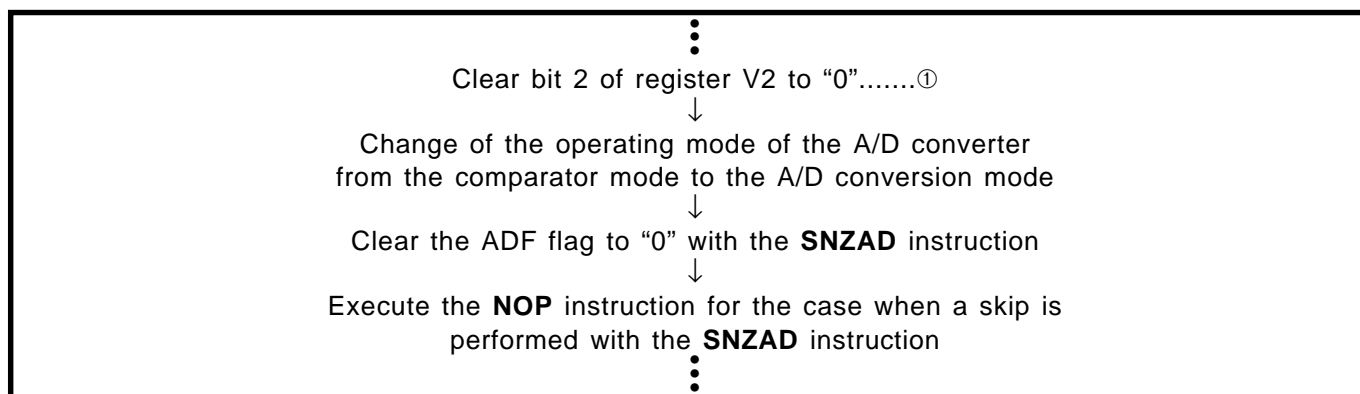

Fig. 2.4.5 A/D converter operating mode program example
- Clear bit 2 of register V2 to "0" to change the operating mode of the A/D converter from the comparator mode to the A/D conversion mode (refer to Figure 2.4.5①).